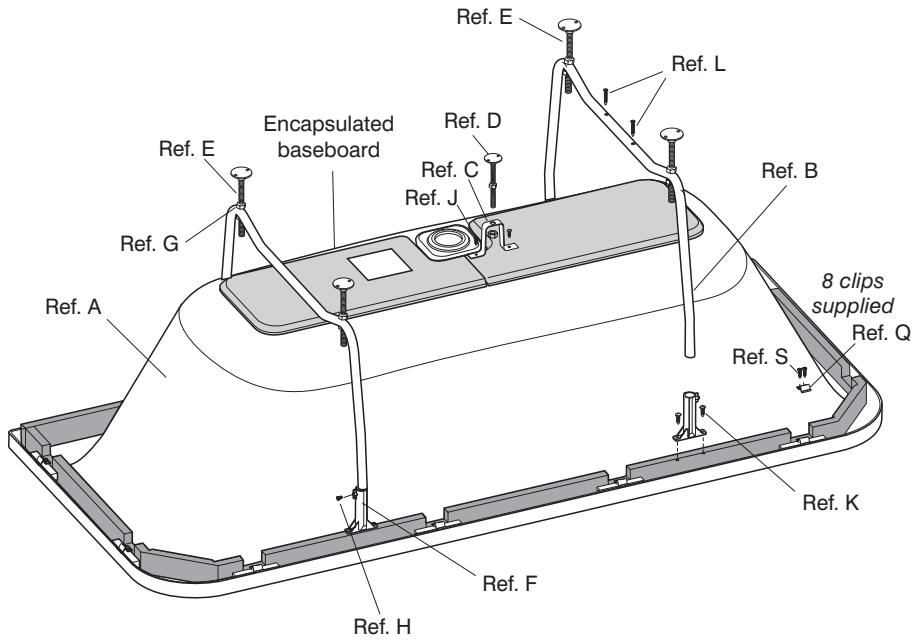

Fig. 5
4. Locate centre support bracket towards the centre of the baseboard, mark screw hole positions, pilot drill holes (Ø3mm) in base board to a depth of 6mm maximum and secure bracket, use screws (Ref. J). Fit the single support leg black end cap onto relevant block (Fig. 5 & 5a) using the supplied screw.
6. Fit the feet see Fig 5, 5a and adjust to give approximate floor to top of rim height required see Fig 1.